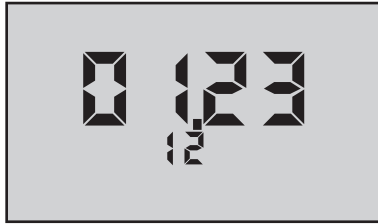

Figure 12
Example shown in Figure 12 is in US format, i.e., mo/dy/yr.
2. Press  $\frac{\text{MR}}{\text{MCLR}}$  repeatedly until the date is displayed (scrolling through stored readings, “PC OFF”, “CLF ALL” and time to the date, e.g. “01.23.12” (Figure 12), January 23, 2012).